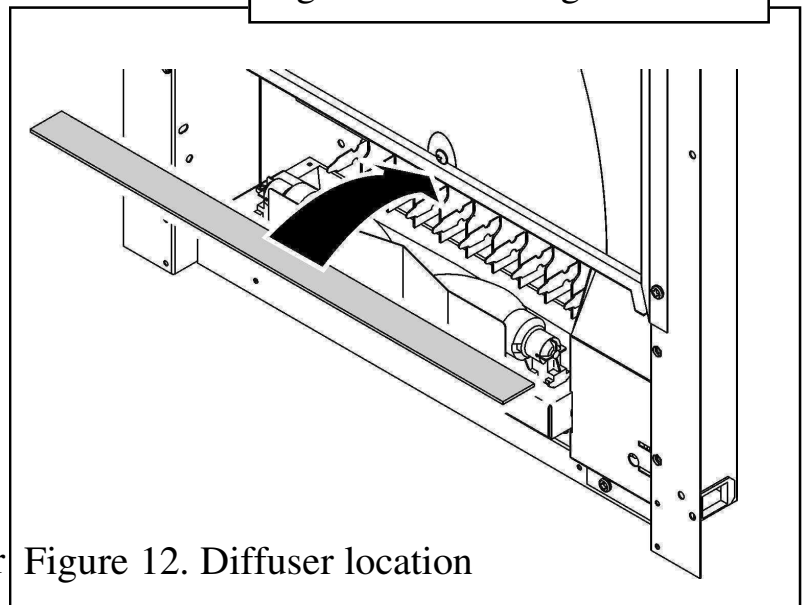

Figure 12. Diffuser location
1. There is a light diffuser supplied with the heater (See figure 5). Place this on to the metal flange below the plastic screen (See figure 12).